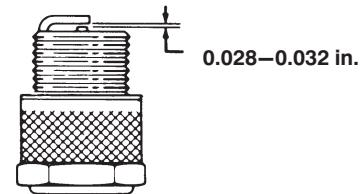

Figure 33
- Set air gap at 0.028–0.032 in. (Fig. 33). Install correctly gapped spark plug and tighten firmly to 17 ft.-lb.